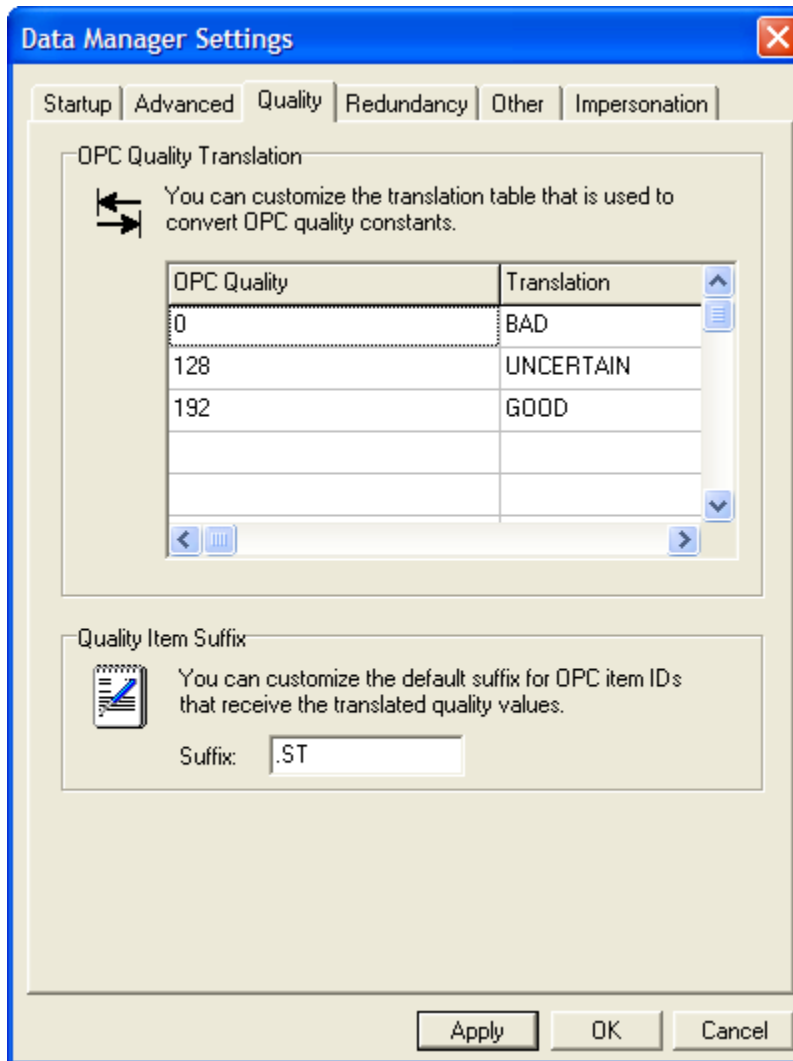

Figure 40 - Data Manager Settings Window (Quality Tab)
The **Quality** tab on the **Data Manager Settings** window is displayed in Figure 40. On this tab, a table that maps numerical OPC qualities to a string can be defined. When a quality item is defined, the OPC quality written to the item is determined by the following rules:
1. If the OPC quality item is a string, then a value from the **Translation** column is written. Consider Figure 40, if the quality of an OPC item is **192** and the type of the quality item is a string, then the string from the **Translation** column, **GOOD**, is written.
3. If the quality item is numeric, but the **Translation** from the quality translation table is not, then Data Manager writes the numeric OPC quality to the quality tag. Consider Figure 40, if the quality of the OPC item is **192** and the type of the quality item is numeric, we cannot write the string **GOOD** to this item. Thus the numeric OPC value **192** is used.